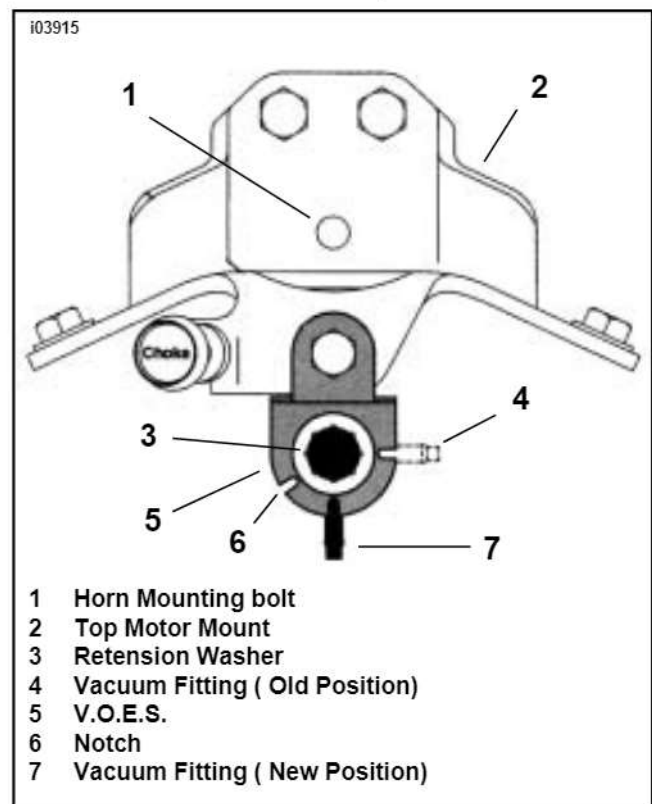

Figure 10. V.O.E.S. Installation
8. See Figure 10. Rotate the V.O.E.S. so that the vacuum line points downward. Note V.O.E.S. and its mounting bracket have indexing bumps and notches that must be aligned.